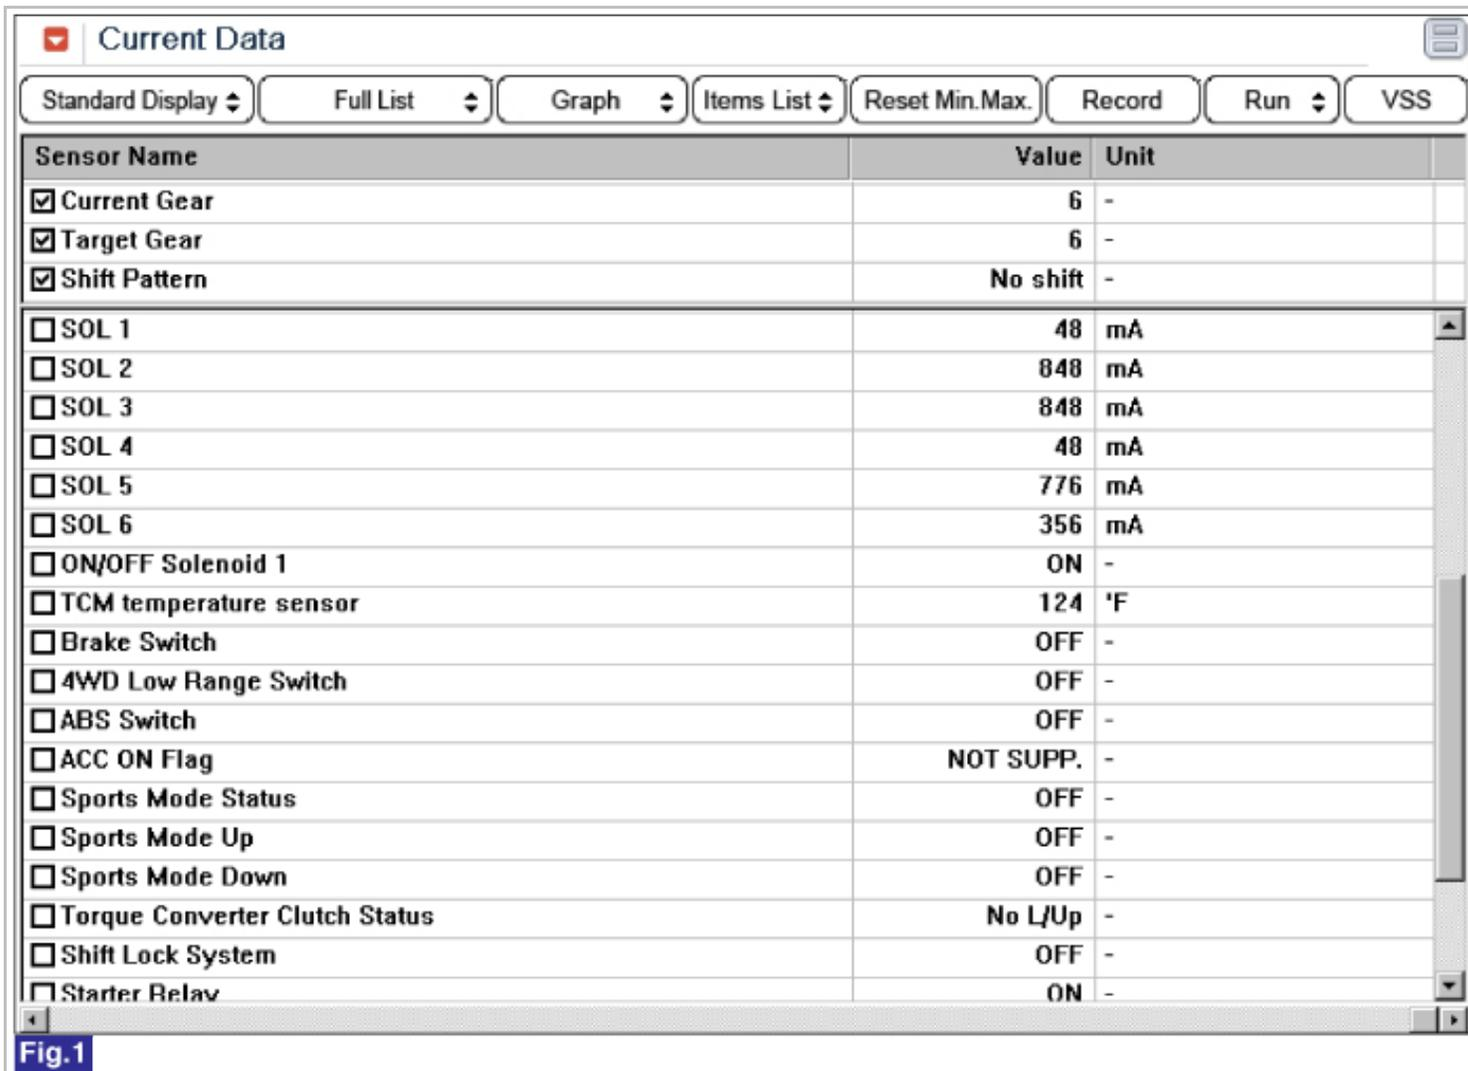

Fig.1
- Fig 1) Solenoid valves in 6th gear